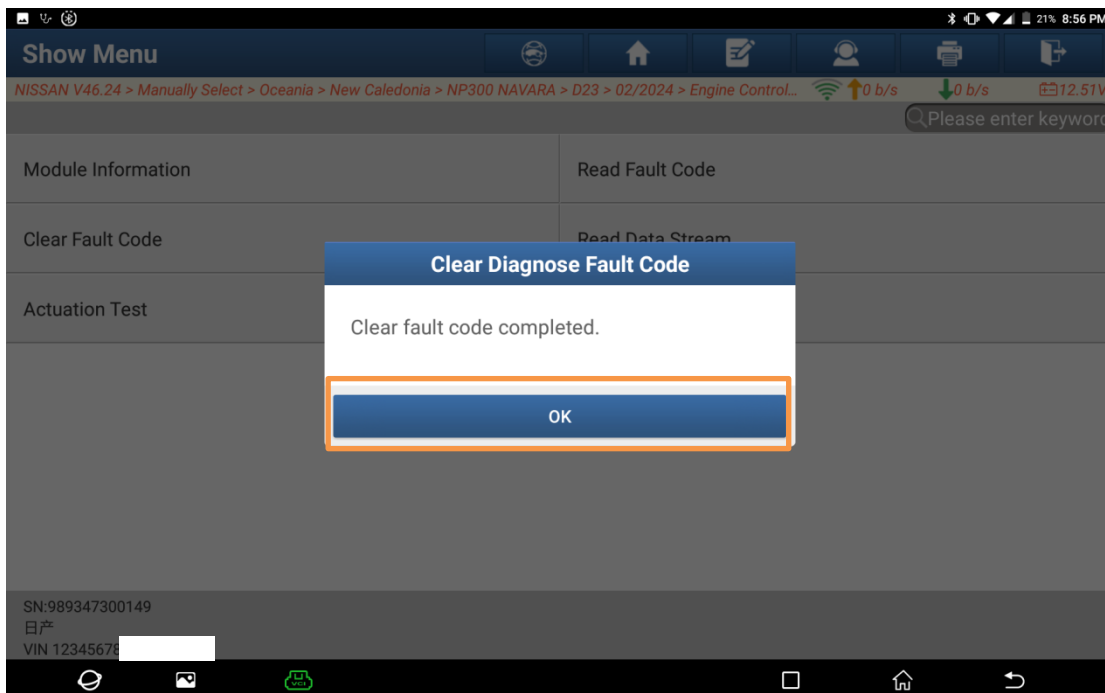

Figure 20
13. Return to the ECM menu interface, click [Clear Fault Code], click [Yes], and then click [OK] to clear the DTC information (Figure 20).